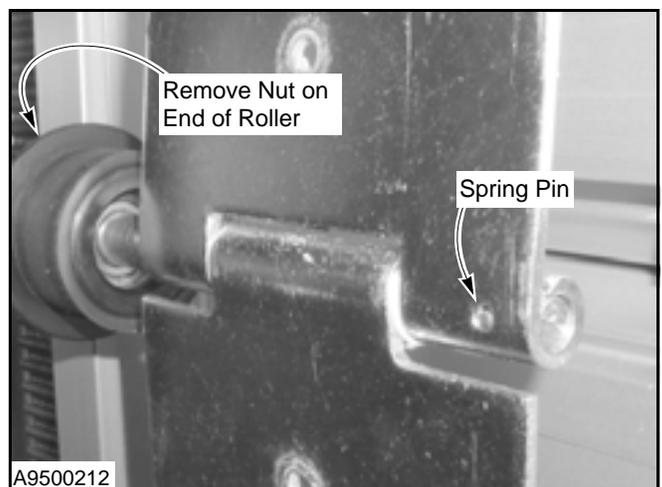

Figure 75
7. To remove the roller, loosen and remove the nut on the end of the roller. Then slide the roller off the end of the axle. (See Figure 75.)